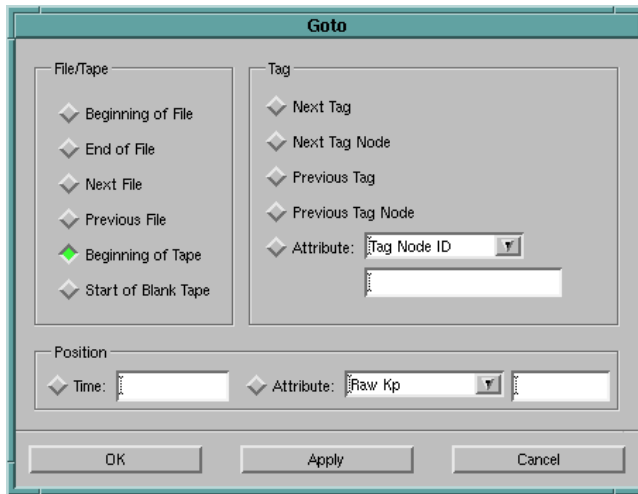

Figure 6-13 The Goto Menu (tape version)
- **Attributes** (see Figure 6-13, page 94).